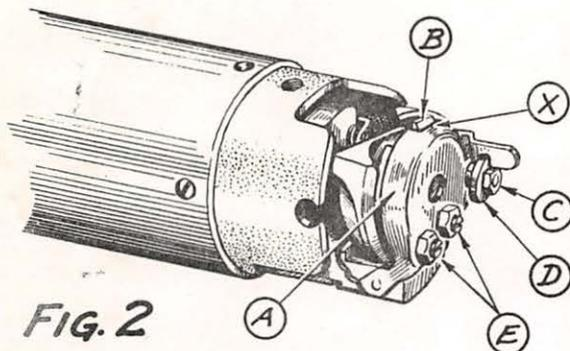
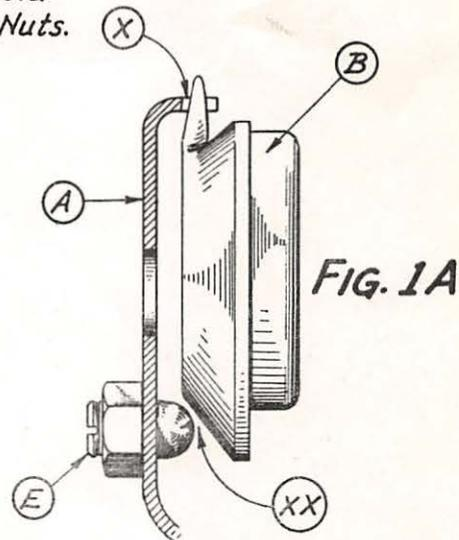

FIG. 2
FIG. 1A
Excessive clearance at (XX) Fig. 1A will cause rattling of Bobbin Case (B).
Adjust for clearance at point (XX) Fig 1A by means of Adjusting Screws (E) Fig. 2 using same procedure as outlined in the above 2nd STEP.